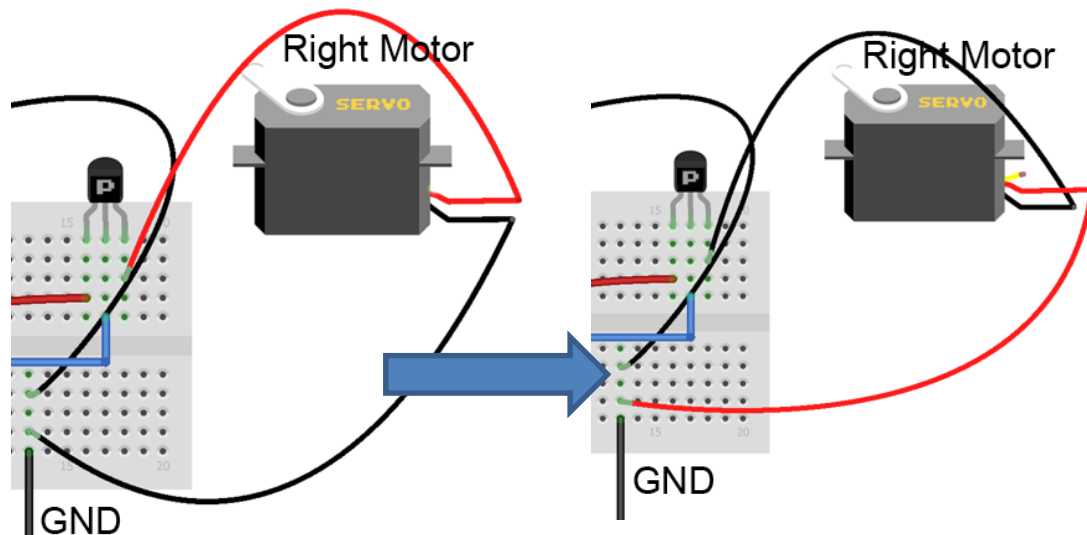

Figure 8. Switch Motor wires as shown if motor is not turning in the forward direction
- a. Check to see if the motors run in the correct direction. Hold the robot in the air. Run Motor_Test.m. Enter 1 as the speed for both the left and right motors. If the motors do not run, see Appendix D and check your robot’s wiring. Verify that BOTH motors run in a direction that would cause the robot to move forward. If a motor causes the wheel to rotate in the wrong direction you will need to change the wiring for that motor. As an example, Figure 8 shows what to do if the right motor is turning opposite to what is desired.